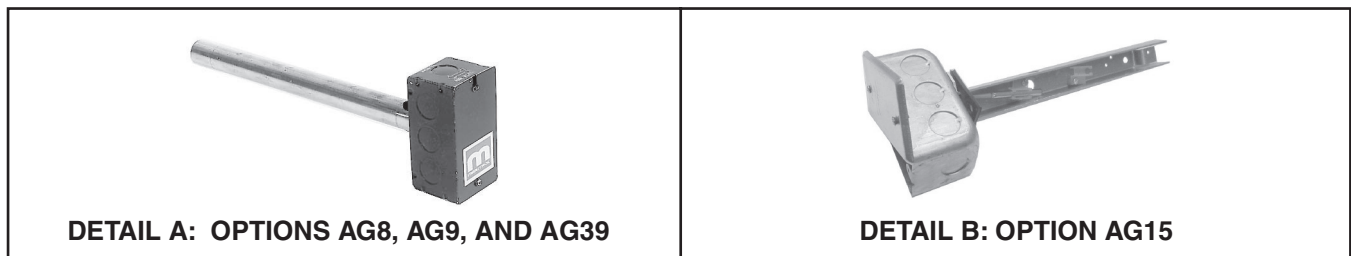

Figure 8. Discharge Air Temperature Sensor and Holder
- (1) Position of sensor in duct is also important—mixing tube shown in Figure 8, DETAIL A is 12 inches (305 mm) long and holder shown in Figure 8, DETAIL B extends 9-3/16 inches (233 mm) into ductwork.
- (2) Turn holder so that element is shielded from direct airflow and will sense air temperature as it flows through holes in holder.
- (3) At selected ductwork location, mark diamond-shaped hole—approximately 1 × 1 inch (25 × 25 mm—required for sensor holder or round hole required for mixing tube and cut hole no larger than necessary.
- (4) For units with option AG8 or AG9, slide mixing tube (see Figure 8, DETAIL A) into ductwork and attach sensor.
- (5) For units with AG15, push element into clip in holder (see Figure 8, DETAIL B), slide holder into ductwork, and position holder so that it shields sensor from direct airflow. Secure box portion of holder to ductwork using four field-supplied #6 sheet metal screws.